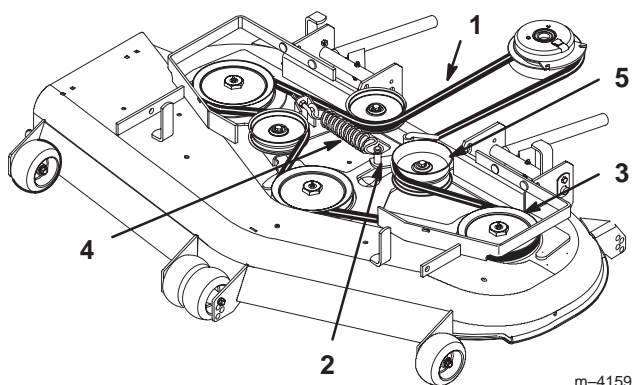

Figure 45
4. Remove belt. Start at outside pulley and rotate off (Fig. 45).
7. Reinstall idler pulley and route belt onto other pulleys (Fig. 45).